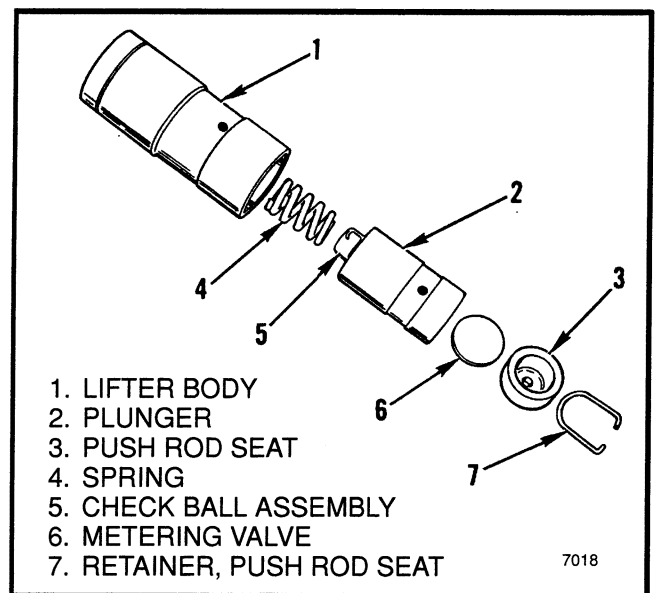

FIGURE 13. HYDRAULIC VALVE LIFTER
1. See FIGURE 13. Hold the plunger (2) down with a push rod. Use the blade of a small screwdriver to remove the retainer for the push rod seat (7).
2. Remove the push rod seat (3) and the metering valve (6).
3. Remove the plunger (2), check ball assembly (5), and the plunger spring (4).
3. See FIGURE 13. Put the plunger spring (9) over the check ball retainer (5) and slide the lifter body (1) over the spring and plunger.
5. Install the metering valve (3) and push rod seat (2). See FIGURE 13. Install the retainer, push rod seat (6). Push down the push rod seat to loosen the 1.6 mm ($\frac{1}{16}$ inch) drift and remove the drift. The hydraulic valve lifter is now ready for installation.